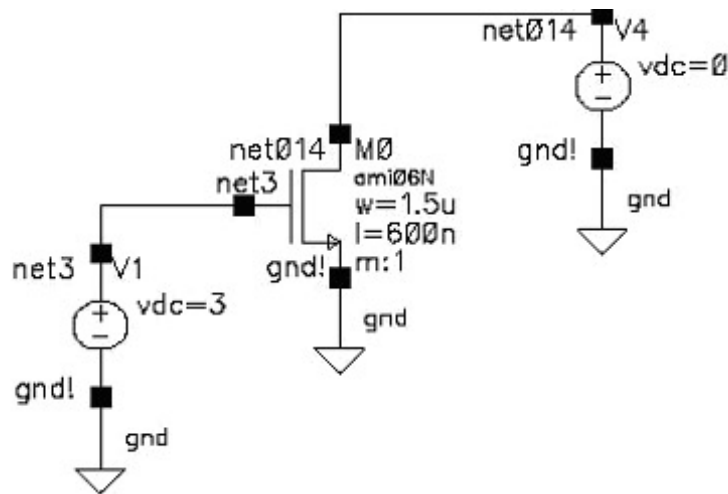
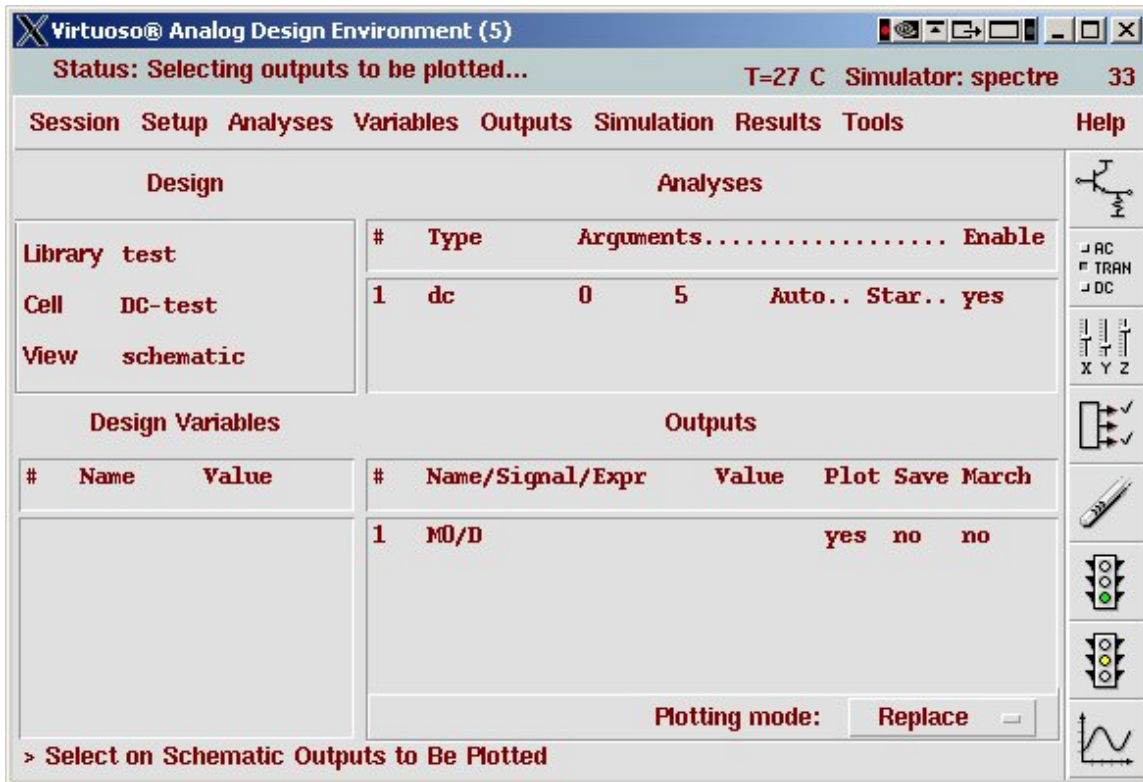

Figure 6.29: Simple circuit for DC analysis (**schematic** view)
Figure 6.32: Analog Environment dialog box for DC analysis
To run the same DC analysis in Spectre, start by creating a schematic with a single **nmos** device and two **vdc** supply nodes from either the **NCSU_Analog_Parts** or the **UofU_Analog_Parts** libraries. The Composer version looks like Figure 6.29. To perform a DC analysis on this circuit you would fix the gate voltage (it's fixed at 3v in this Figure 6.29), and then do a DC sweep of the V_{ds} by sweeping the voltage of the other **vdc** component from 0 to 5 volts. To see the I_{ds} value you would plot the current at the transistor's drain instead of the voltage of a node.
1. Open the schematic in **Composer**. Set the voltages of the **vdc** components as they are in Figure 6.29.
7. Back in the Analog Environment you need to select the outputs to be plotted. Use the same **Select on Schematic** choice that you've used before, but instead of selecting a wire, select the red square on the drain of the **nmos** transistor (the top leg of transistor M0 in Figure 6.29 - the one without the arrow). This will cause a circle to be put around the drain, and the drain current will be plotted. This shows up as **M0/D** for the output in my circuit (**M0** is the transistor identifier, and **D** is the drain current). The **Analog Environment** dialog box should look like Figure 6.32 when you're done.